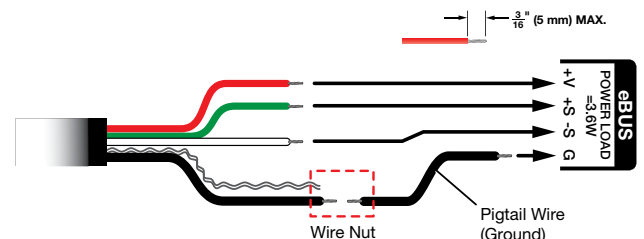
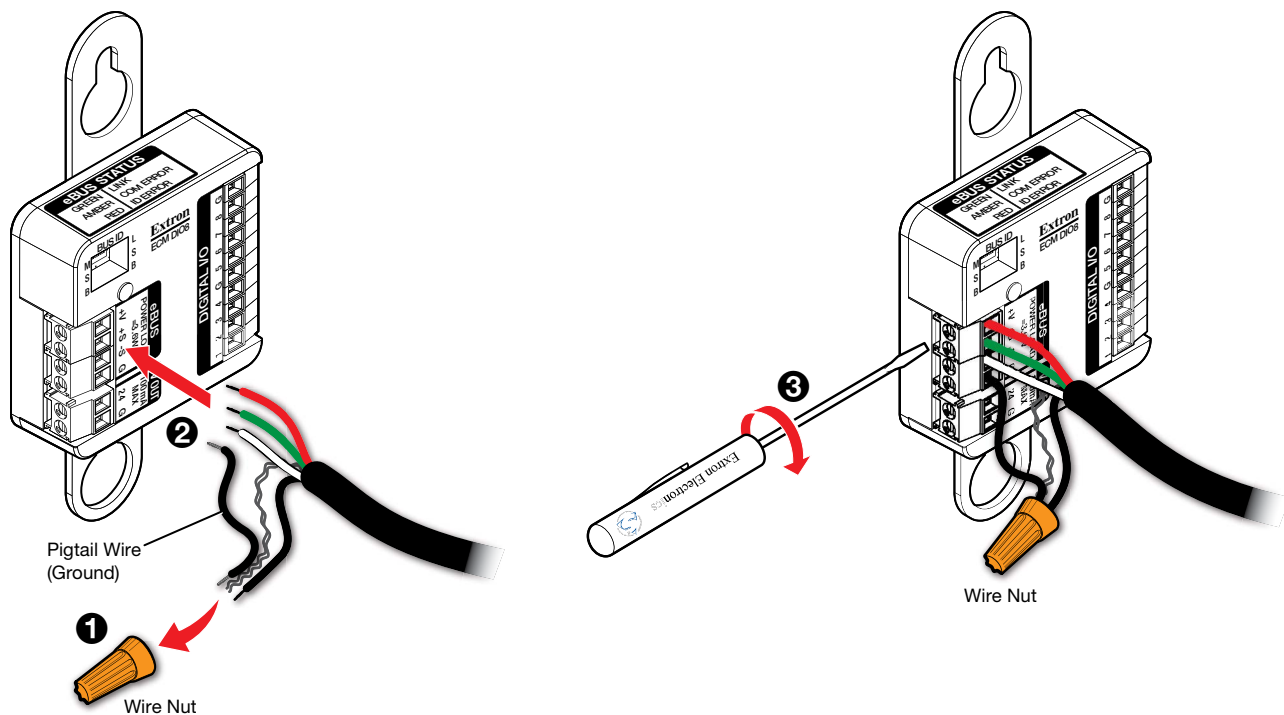

Figure 11. Wiring the eBUS Cable
Figure 12. Connecting a Ground wire to the ECM DIO8
The diameter of the ground wire and the two drain wires, when they are combined, is too large to fit into the captive screw holder on the eBUS terminal. Use a wire nut to combine a pigtail wire with the ground wire and the two drain wires. The pigtail is inserted into the eBUS connector in the usual way, as shown in figure 12, on the following page.
5. Gather the pigtail wire, with the ground wire and drain wires from the cable. Twist the exposed ends of the wires together into the provided wire nut (see figure 12, ①).
6. Insert the +V, +S, -S, and the free end of the pigtail into the appropriate eBUS terminals (see figure 11 on the previous page and figure 12, ②).
7. Use a small flat-bladed screwdriver to secure the wires in the eBUS connector (③).